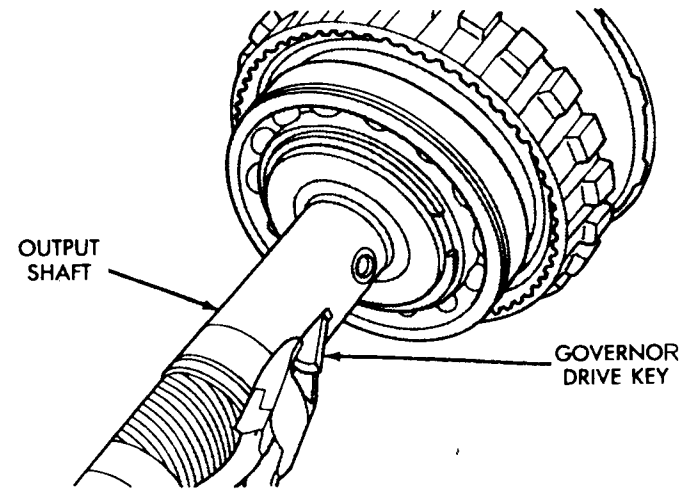

Fig. 19 Governor Drive Key Removal
- (4) Remove governor drive key (Fig. 19).